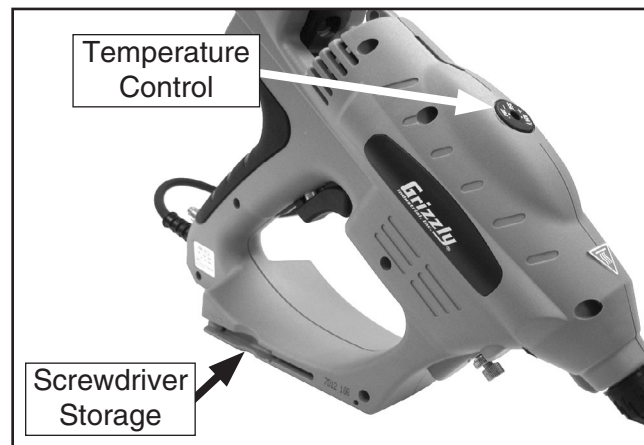

Figure 7. Temperature control.
1. Using the screwdriver, adjust the temperature control located at the top of the glue gun (**Figure 7**).